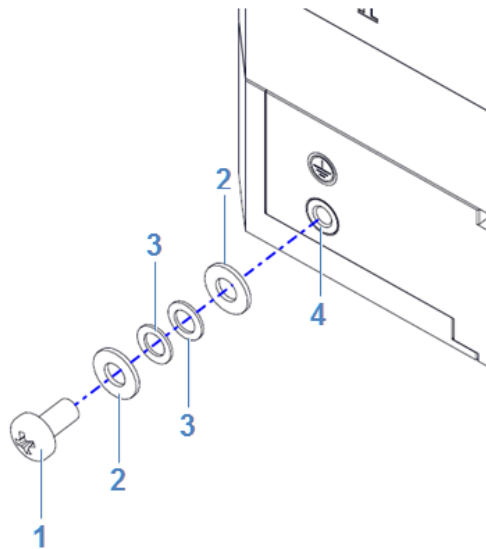

Figure 7: Protective earth connection setup (exploded view)
2. Remove the screw and the safety and flat washers of the protective earth connection (p. Figure 7).